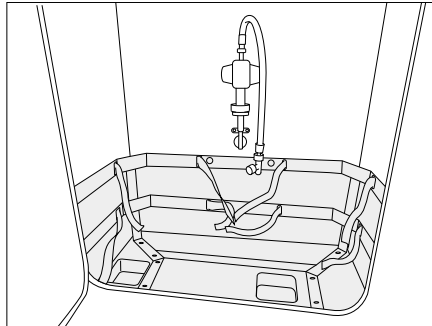
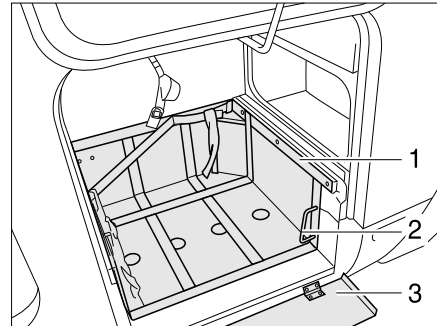

Fig. 237 Gas bottle compartment
Fig. 238 Gas bottle compartment with extendable slide
- If there is a guard plate (Fig. 238,3), fold it down.
- Unlock the slide (Fig. 238,1) using the handle (Fig. 238,2).
- Pull out the slide (Fig. 238,3) as far as possible.
- Turn back the handle (Fig. 238,2).
- Unlock the slide (Fig. 238,3) using the handle (Fig. 238,2).
- Push in the slide (Fig. 238,3) as far as possible, and turn back the handle (Fig. 237,2).
- If there is a guard plate (Fig. 238,1), fold it up.